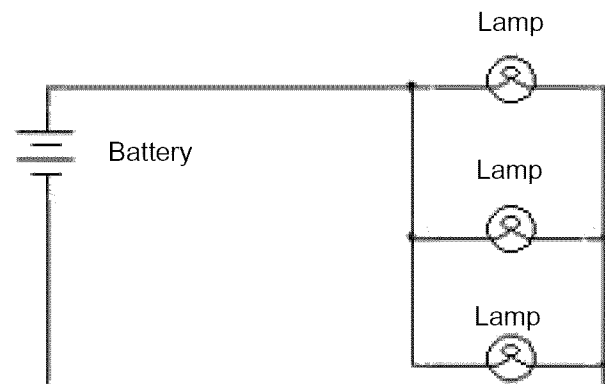

Figure 7.29
- Parallel circuits are wired so that current has multiple paths to follow. If a component in one of the parallel paths fails, the rest of the circuit will keep working. See Figure 7.29.